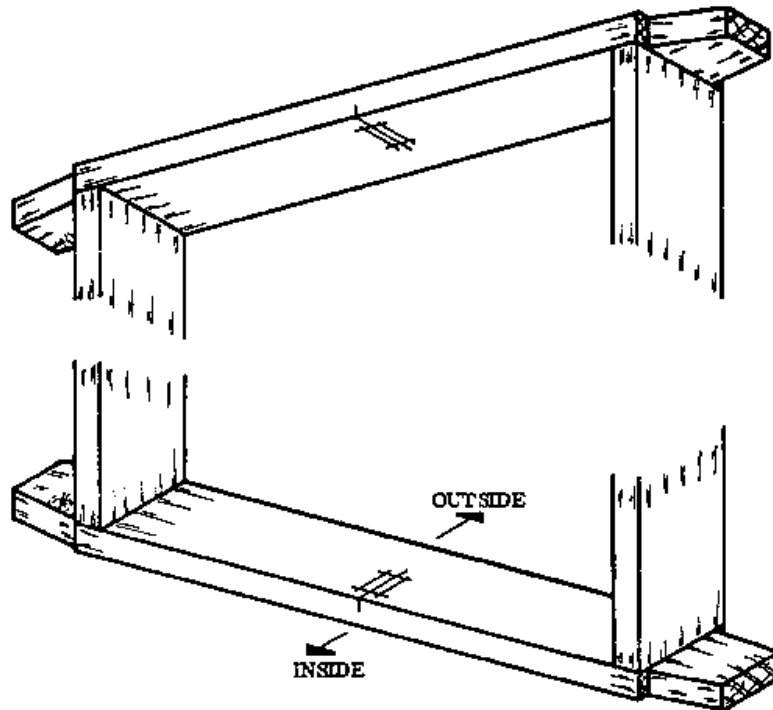

Fig. 1
- b. Mark out the position of the metal mullion on the head and cill. Keep in mind the position of the mosquito wire (Fig. 1).